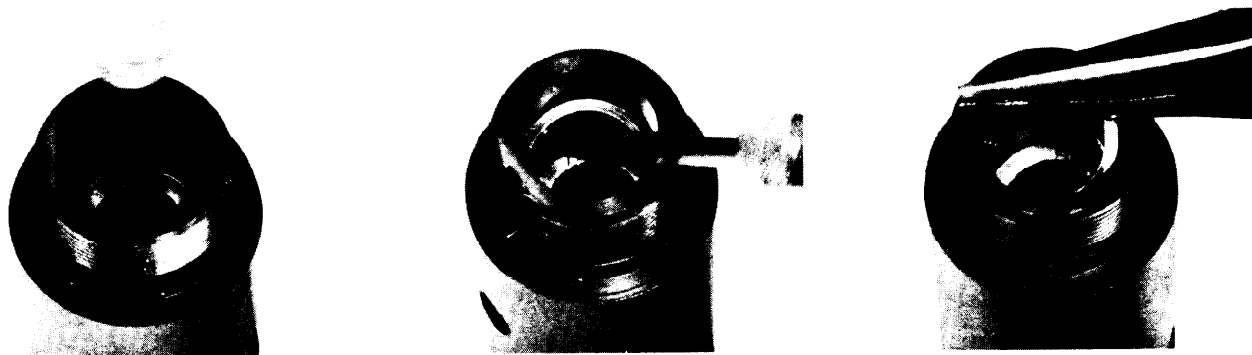

Figure 6 - Scraper and Retaining Ring Removal
7. Hold hydraulic pump body and push threaded end (air motor) of hydraulic pump plunger (21) toward siphon ball seat (15) until pressure ball seat (12) appears.
10. Refer to Figure 6 and the following instructions to remove hydraulic scraper retaining ring (17) from pump body.